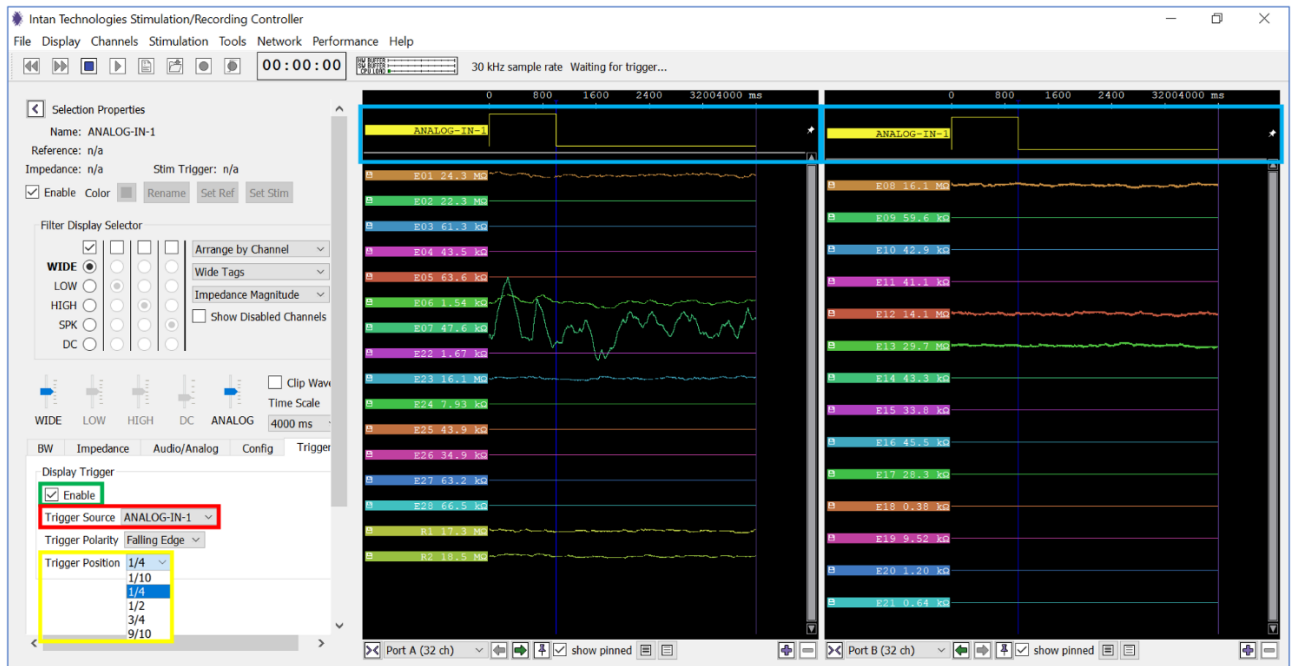

Fig. 68: Display waveforms after before and after a trigger.
- i) Check the “Enable” box if you want to use this function (green box in **Fig. 68**). If the box is not checked, the waveforms are displayed continuously.
- ii) The “Trigger Source” allows the user to select the input that triggers the display of data. In **Fig. 68**, the “Analog In 1” input from a signal generator is used as trigger (red box).
- iii) The “Trigger polarity” allows the user to choose between the recording being displayed for a “Rising Edge” or “Falling Edge” signal. In **Fig. 68**, the display of recorded data starts with a falling edge, i.e., when the trigger signal goes from a high value to a low value (pinned channel in blue boxes in **Fig. 68**).
- iv) The “Trigger Position” tab allows the user to position the trigger on 6 different positions within the chosen timescale. The trigger can be placed on 1/10, 1/4, 1/2, 3/4, or 9/10 of the timescale (yellow box in **Fig. 68**). In the example in **Fig. 68**, the timescale is 4000ms. The Trigger Position tab allows the user to place the trigger at 1/10 (400ms), 1/4 (1000ms), 1/2 (2000ms), 3/4 (3000ms) or 9/10 (3600ms).